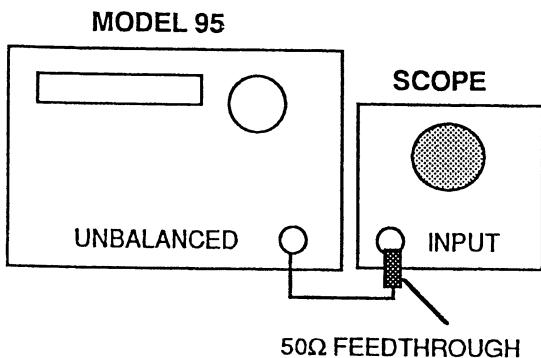

Figure 4-13. Triangle Amplitude Setup
1. The Model 95 displays TRI AMPL R211 1. Connect test equipment as shown in figure 4-13 and set the scope to measure Vdc. Note the amplitude of the triangle wave.
1. The Model 95 displays SIN AMPL R208 0. Leave the test equipment connected as shown in figure 4-13.
1. The Model 95 displays HF SYM R9. Leave the test equipment connected as shown in figure 4-13.
shown in figure 4-13.